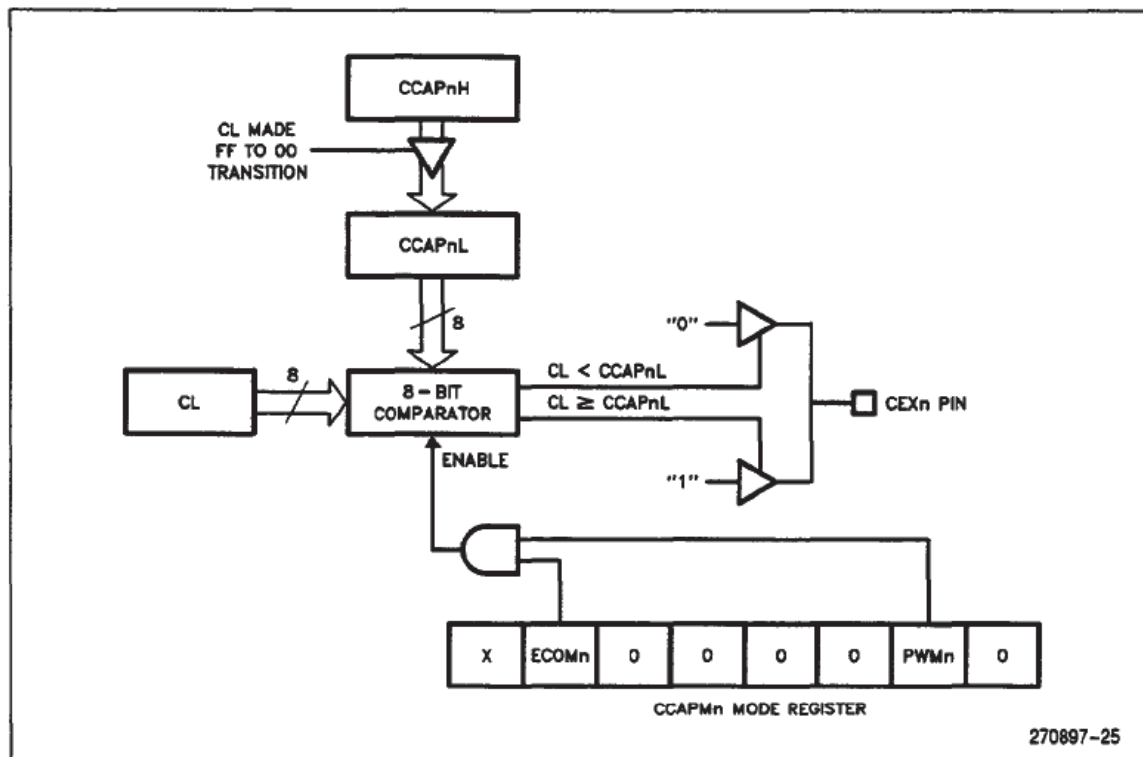

Figure 23. PCA 8-Bit PWM Mode
For this mode, the ECOMn bit and the PWMn bits in the CCAPMn mode register need to be set. The PCA generates 8-bit PWMs by comparing the low byte of the PCA timer (CL) with the low byte of the module's compare registers (CCAPnL). When $CL < CCAPnL$ the output is low. When $CL > CCAPnL$ the output is high. Refer to Figure 23.